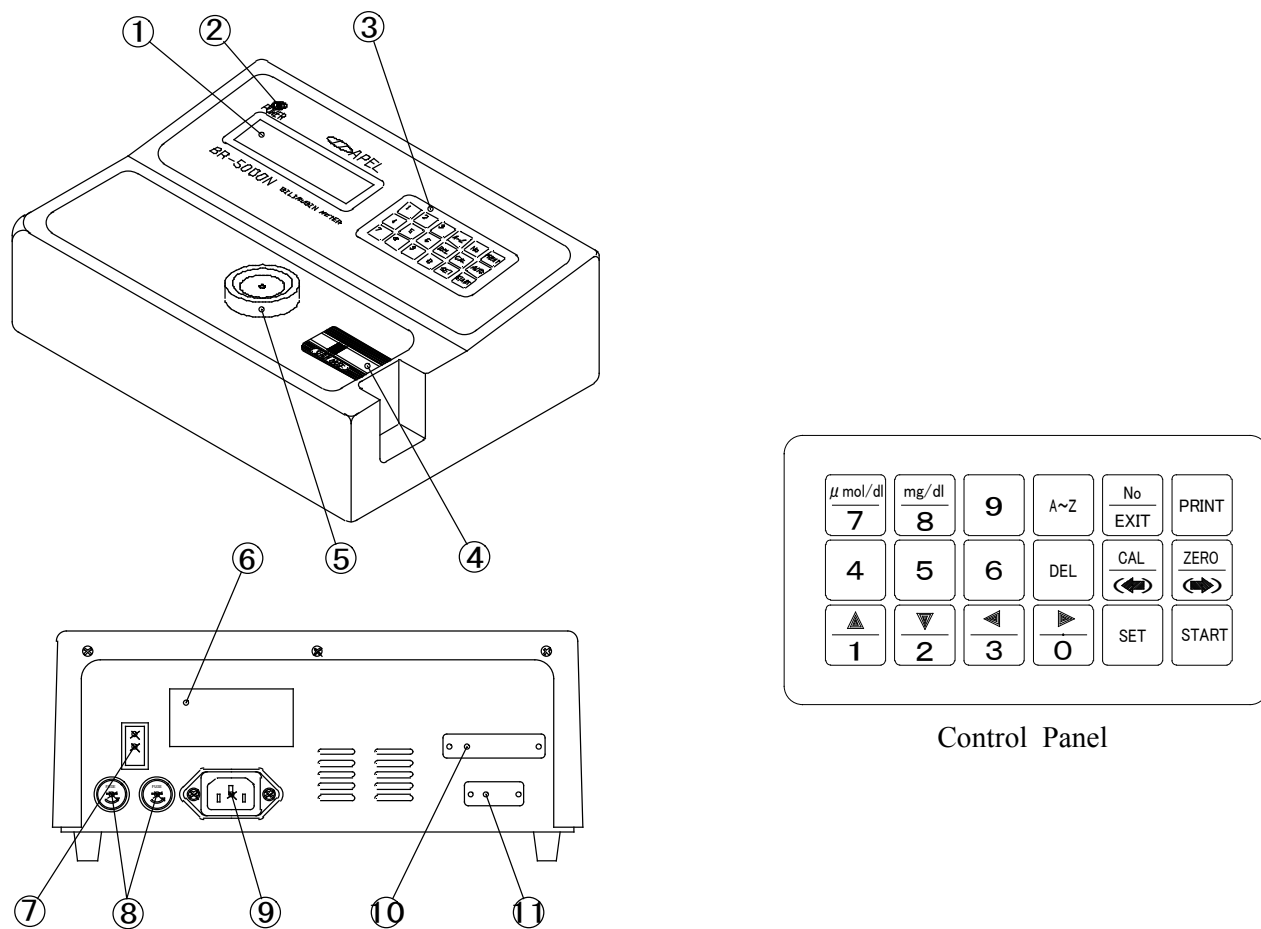

Fig. 1
- (1) Fill distilled water into a capillary tube (blue line) and seal one end with putty and get rid of the bubbles.
- (2) After wiping off the outside of the tube well, set it in the capillary tube holder. ( Fig. 1 - ⑤)
- (3) Press the “ZERO” key (for more than 2 seconds) and confirm that the display reads **00.0**.